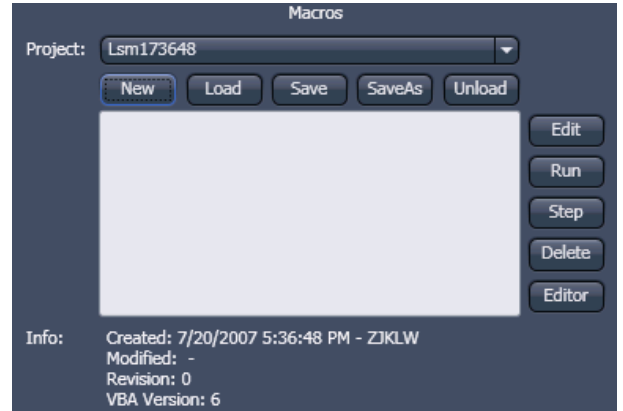

Fig. 4 Macro panel with new Macro assigned
- Press the **New** button to create a project file (see Fig. 4).